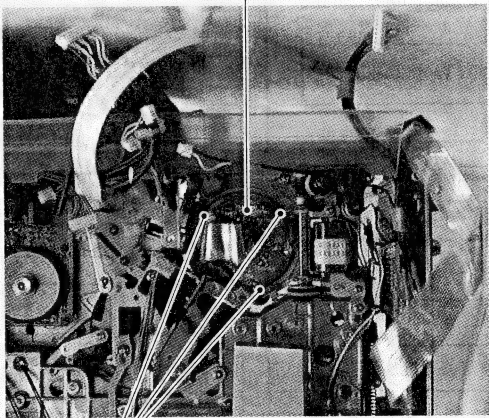

Fig. 2-5-2
2. Remove the three screws 1 which are retaining the drum from the rear side. (see Fig. 2-5-2).